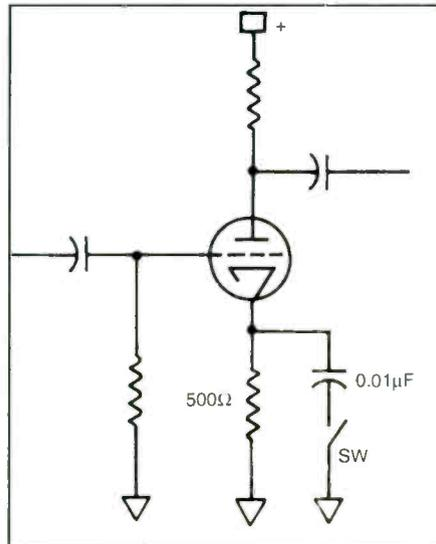

Figure 1.
8. In the audio circuit of Figure 1, closing the switch